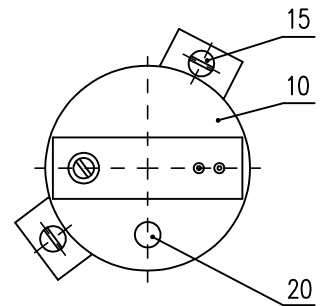

Fig.9
3.5 Adjustment of Capacitive Transmitter CPT1/A (Fig.9)